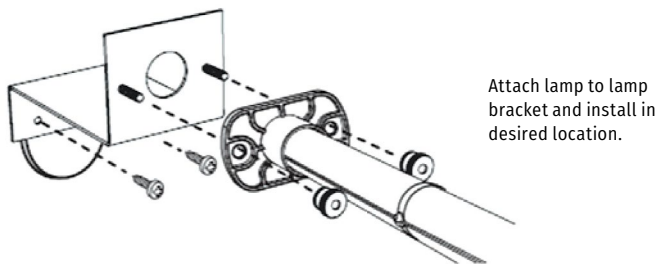

Fig. 9 W-coil / Above A-coil Install (Remote Lamp)
1. (See Fig. 9) Disconnect power to the air handler and open access panels.